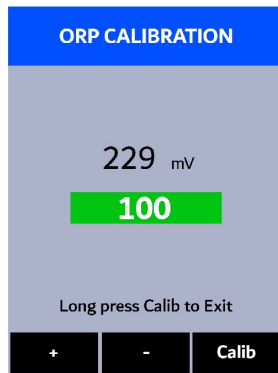

Figure 51.
7. Press **OK** to launch the **ORP CALIBRATION** screen (Figure 51).